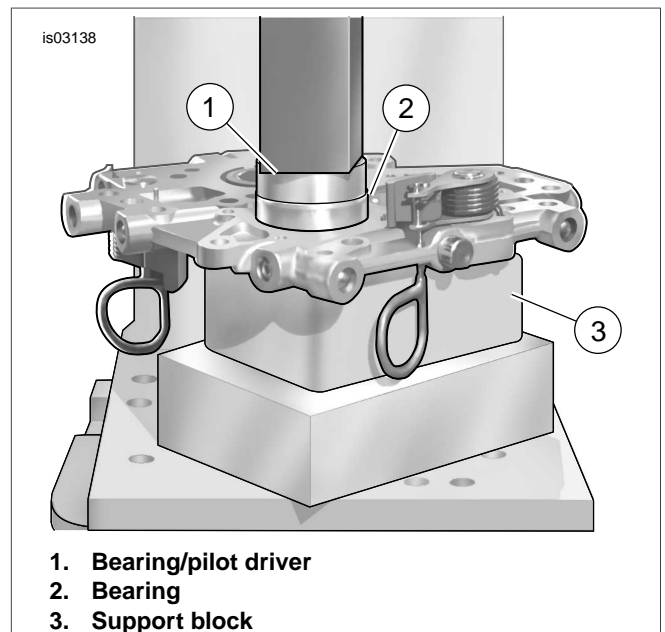

Figure 5. Press Bearings into Cam Support Plate
- d. See Figure 5. Center bearing driver under ram of arbor press. Press on driver until bearing makes firm contact with counterbore in cam support plate. Repeat Steps 2a through 2c to install second bearing.